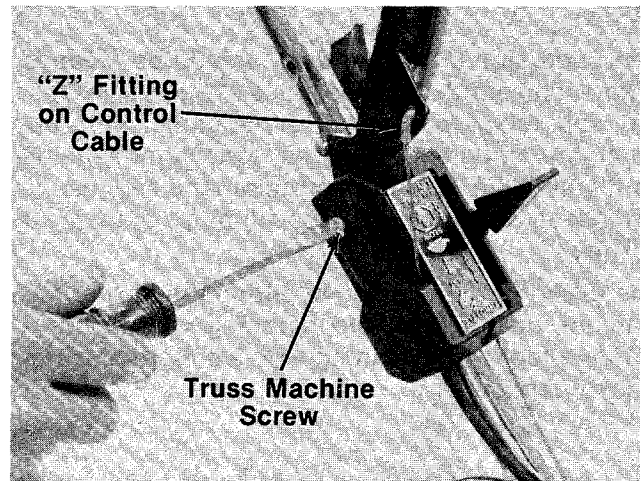

FIGURE 23.
4. Remove one truss machine screw on the inside of control housing as shown in figure 23. Loosen the truss machine screw on the outside of the control housing until the inside half of control housing can be lifted off.
5. Disconnect the "Z" fitting on the blade brake/clutch cable from the clutch control handle. See figure 23. Slide the blade brake/clutch cable out of the control housing.